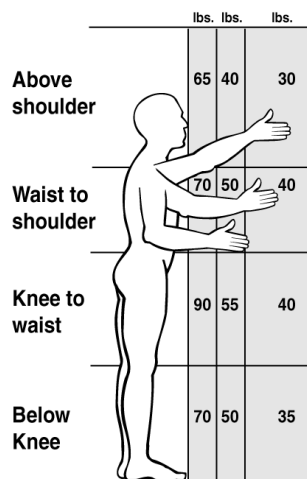

Figure 1: Lifting Diagram
2. Circle the number on a rectangle in the Lifting Diagram (Figure 1) that corresponds to the position of the person's hands when they begin to lift or lower the objects.